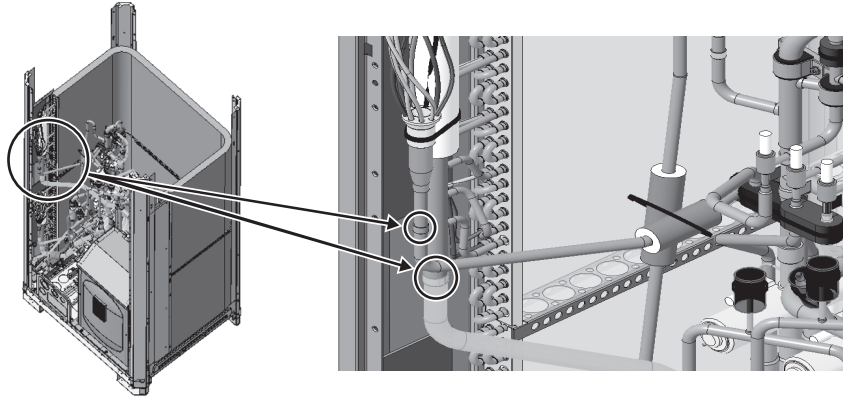
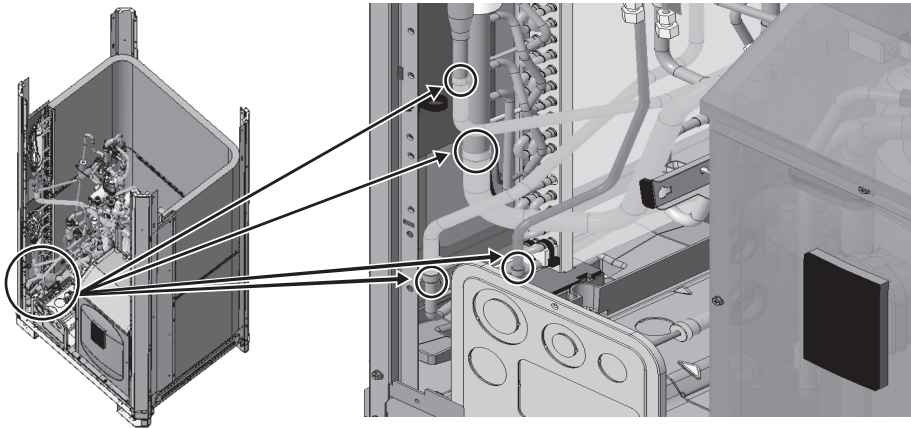

Fig. 14 Brazing point of the upper heat exchanger piping
Fig. 15 Brazing point of the lower heat exchanger piping
(1) When removing the heat exchanger, use the recommended wet felt to avoid burning the heat exchanger and pipe cover, etc. Remove the brazed part. (Six areas to remove brazing: Fig. 14 and Fig. 15)